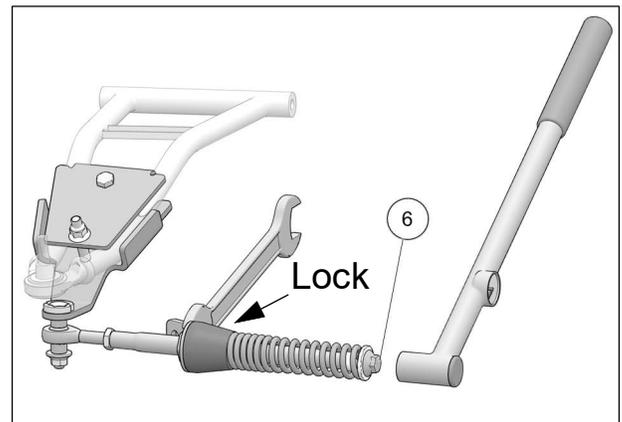

Fig. 23
10. Verify that spring assembly bolt (6) is tightened to the recommended torque specification: 75 Nm [55lb•ft]. Make sure to lock in position, the large nut in front of the rubber cone damper. Refer to Fig. 23